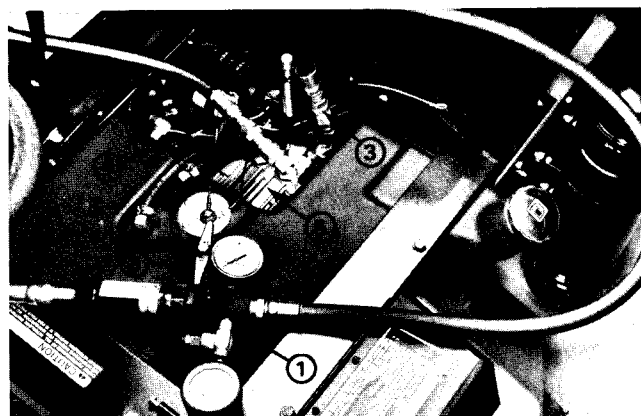

Figure 8
3. Place a drain pan on the floor beneath the hydrostatic transmission. Disconnect the hydraulic hose at the charge pump outlet (pressure) fitting (Fig. 8).
Remove the cover from the steering wheel hub. Remove the locknut that secures the steering wheel to the shaft (Fig. 8). Pull the steering wheel off the shaft.